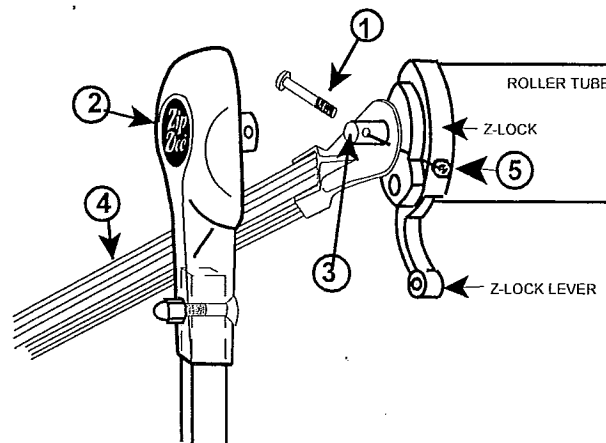

Figure A3
- Open Z-Lock (pull lever(3) open) and rotate cover(2) so lever is facing down.
- Slip Rafter Arm onto shaft (Fig. A3) so that flat side of casting is against lock.